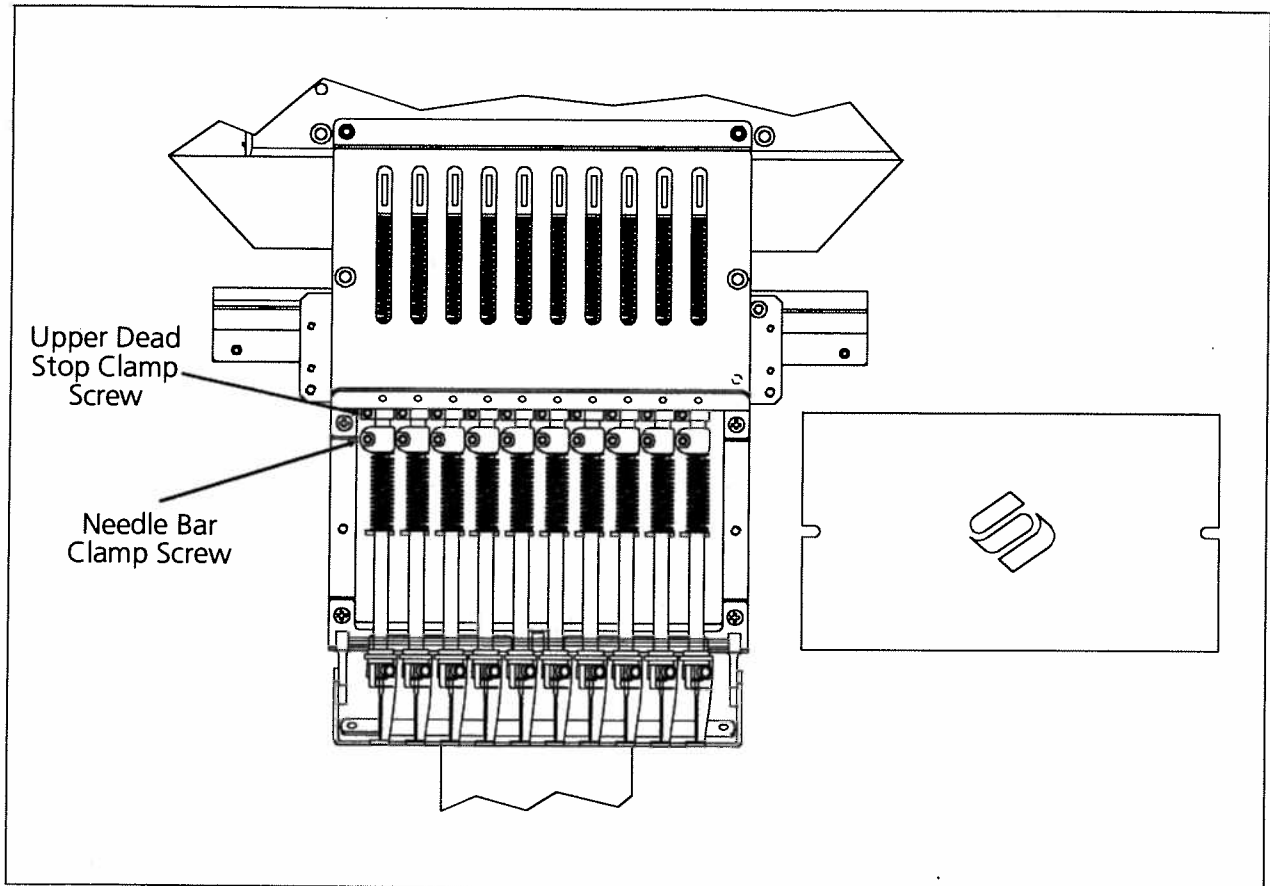

Figure 8-23
Check for the eye of the needle here, It is also shown in Figure 8-23.
10. Loosen the needle bar clamp screw shown in Figure 8-23.